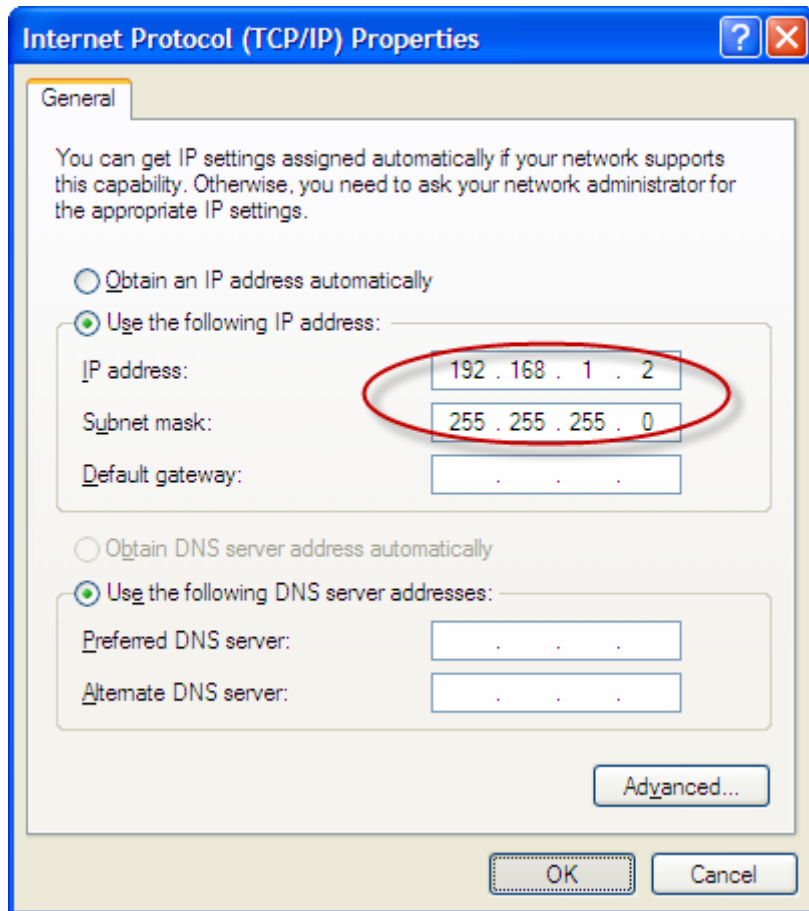

Figure 3-4
Step 4: Configure the IP address (Figure 3-4): Enter the IP address as 192.168.1.* (* is any value between 2 to 254, Subnet mask is 255.255.255.0). After that, click **OK**.